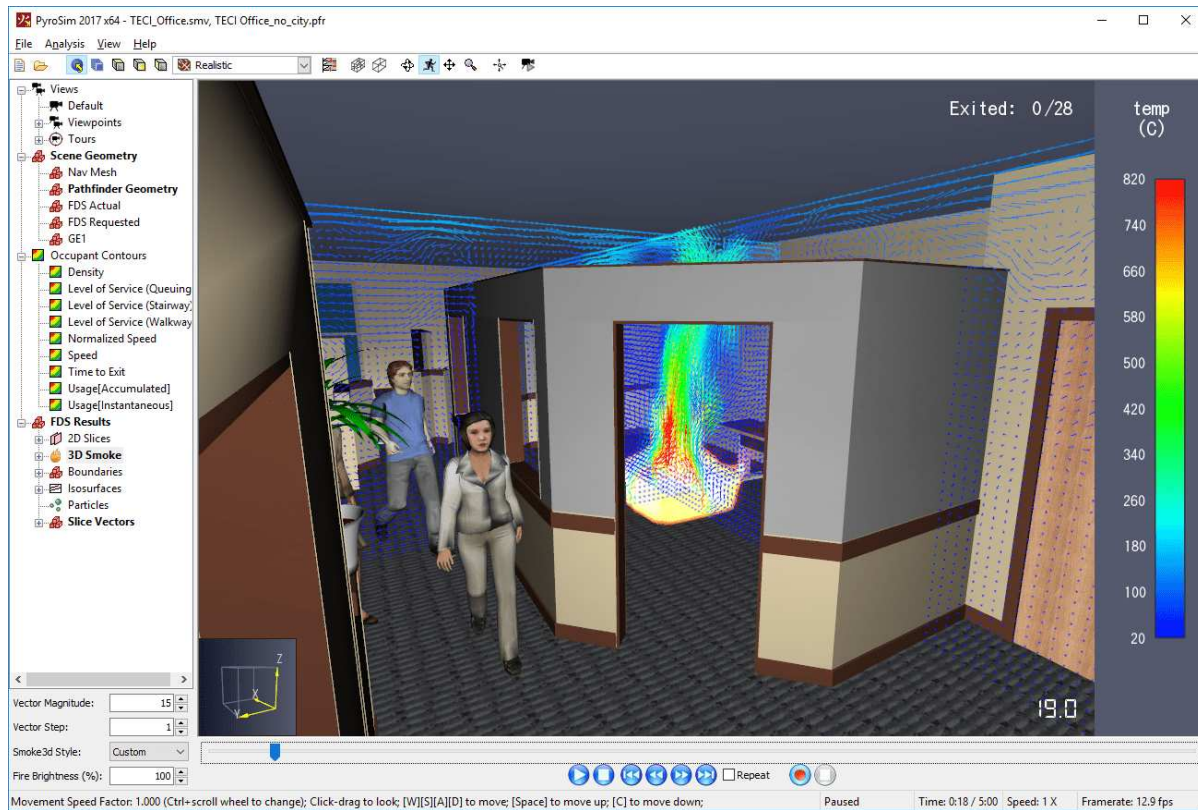

Figure 1. 3D Results of the Thunderhead office
- In the center of Figure 1 is the **3D View**, which is the graphical representation of the scene.